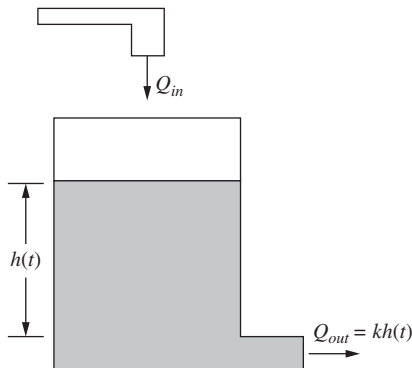

Figure P10.1 Leaking tank for problem P10-1.
- 10-1.** A faucet supplies fluid to a container of cross-sectional area A at a volume flow rate Q_{in} , as shown in Fig. P10.1. At the same time, the fluid leaks out the bottom at a rate $Q_{out} = k h(t)$, where k is a constant. If the container is initially empty, the fluid height $h(t)$ satisfies the following first-order differential equation and initial condition: